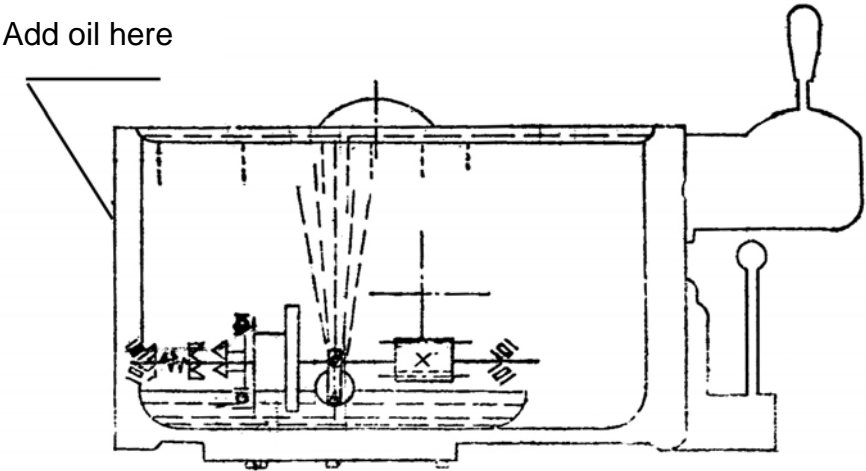

Fig 21 Diagram of apron lubrication
7.3 Apron: An oil pool in the apron casting is used for lubrication. During rapid feed, the stirring blade splashes oil for lubrication of the driving parts in apron. The bearings are lubricated by the ball oilers on the saddle. Use an oil gun to inject oil into the ball oilers. They can also be lubricated by splashed oil or drops from woolen lines (Fig 21).